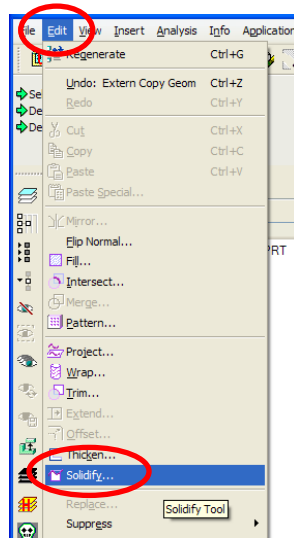

Figure 16
- Pick on one quilt of the Extern Copy Geom feature and click **Edit>Solidify**. Repeat for each quilt, then click the green checkmark. (See Figure 16)